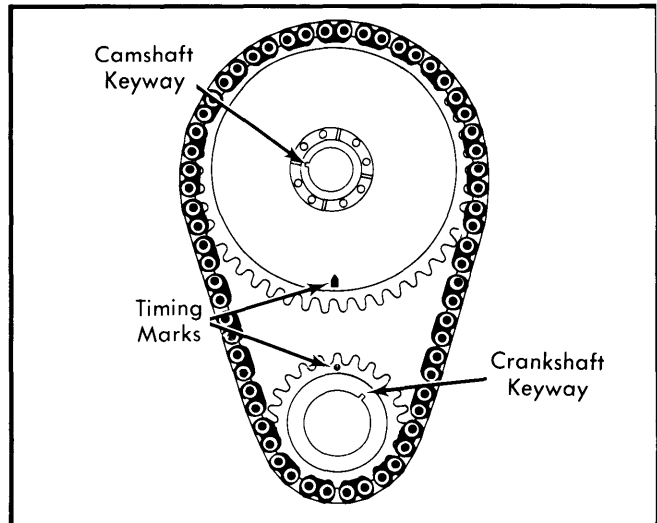

Fig. 6 Aligning Timing Marks
Removal – Remove front cover and crankshaft oil slinger. Remove camshaft sprocket retaining bolt and washer, distributor drive gear and fuel pump eccentric. Rotate crankshaft until timing mark on sprocket is aligned with camshaft sprocket timing mark. See Fig. 6. Remove crankshaft sprocket, camshaft sprocket and timing chain as an assembly.
2) Remove front cover and rotate crankshaft until timing mark on sprocket is aligned with camshaft sprocket timing mark. See Fig. 6. Remove crankshaft sprocket, camshaft sprocket, and timing chain as an assembly. Remove hood latch support bracket upper retaining screw and move bracket (as required) for access to camshaft. Remove front bumper or grille (as required) and carefully remove camshaft.